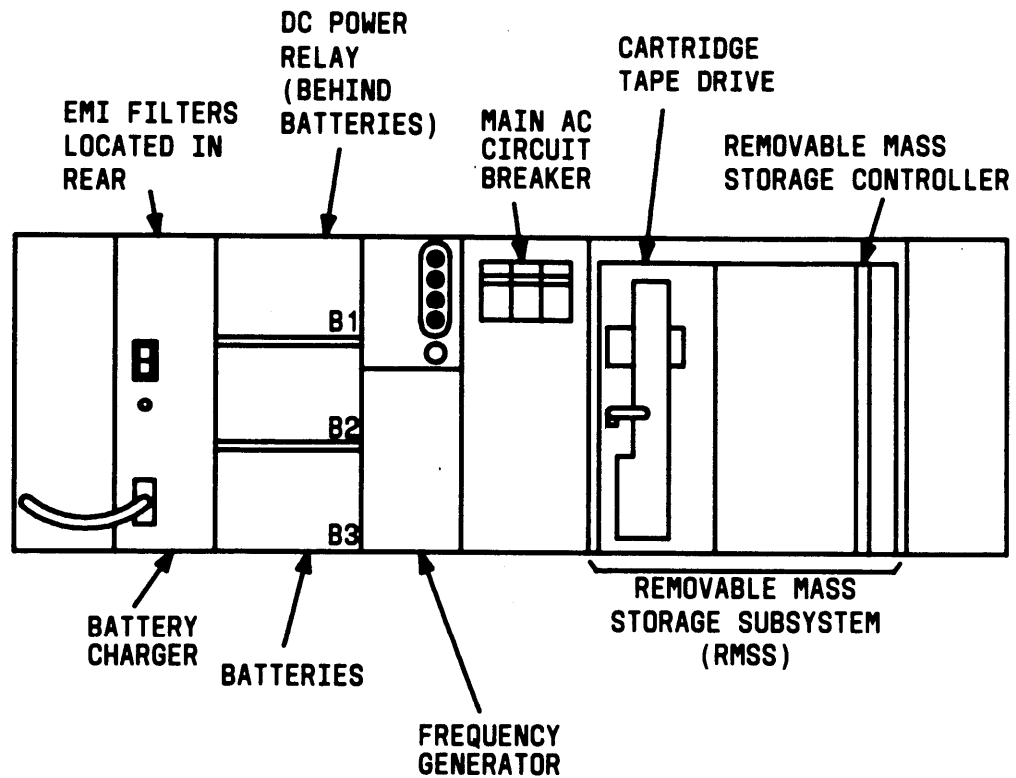

Figure 12. Power Distribution Unit (Cover Removed)—With RMSS
- At the power distribution unit (Figure 12), set the main ac circuit breaker to ON.